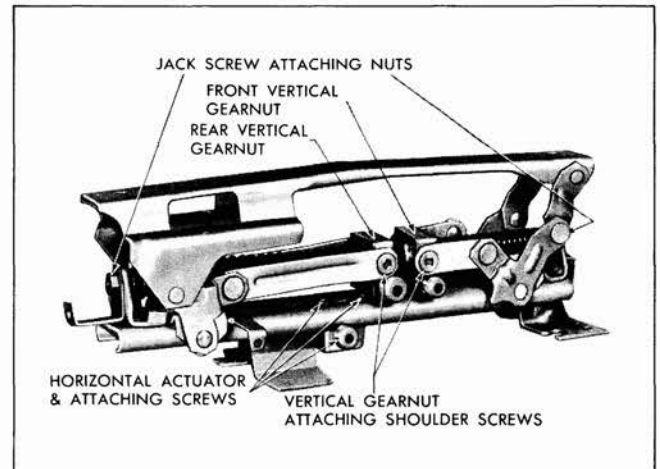

Fig. 8-8 Six Way Seat Adjuster
3. Using clutch-type screwdriver or other suitable tool, remove shoulder screws securing linkages to vertical gear nuts (Fig. 8-8).